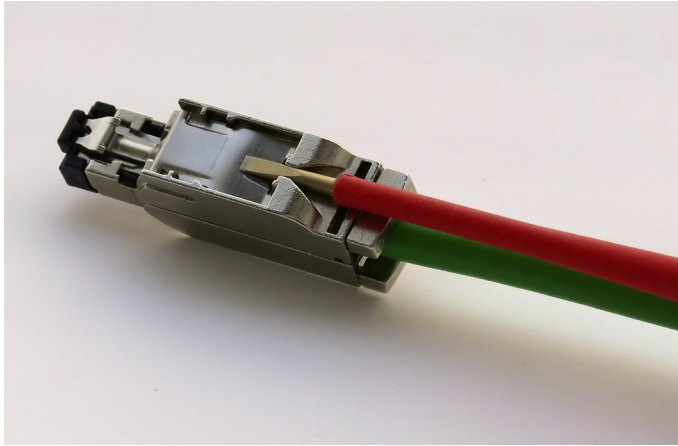

Figure 4-6 Releasing the latching of the RJ45 Plug
1. First disconnect all connected cables. See << Link to Figure 4.6>>